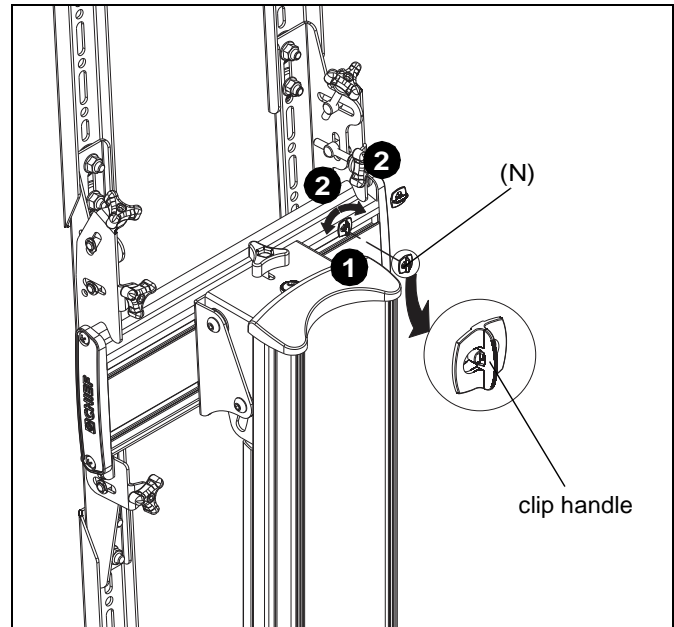

Figure 7
1. Place FCA clip (N) into groove on back of Fusion mount with clip handle in a vertical position. (See Figure 7)
2. Rotate FCA clip (N) 90° in either direction until clip handle is in a horizontal position. (See Figure 7)